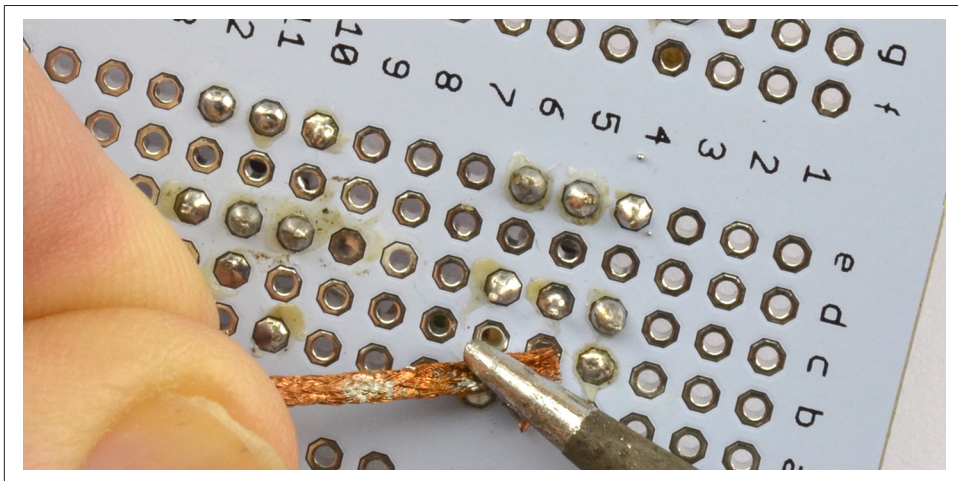

Figure 20-22. Using the Desoldering Braid
1. Remove as much of the solder as possible by pressing the desoldering braid against the pad and then heating it with the soldering iron (Figure 20-22).